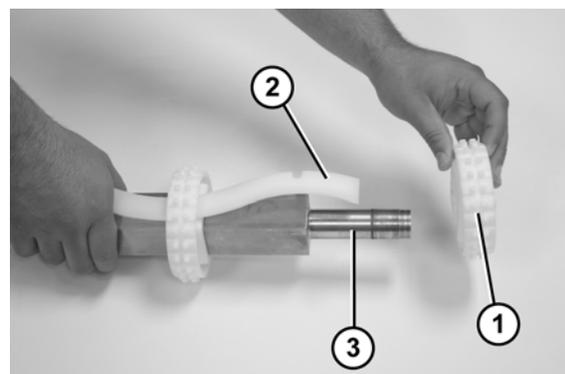

Figure 55
10. Slide the sprockets (**Figure 55, item 1**) and the sprocket alignment bar (**Figure 55, item 2**) off the drive spindle (**Figure 55, item 3**).